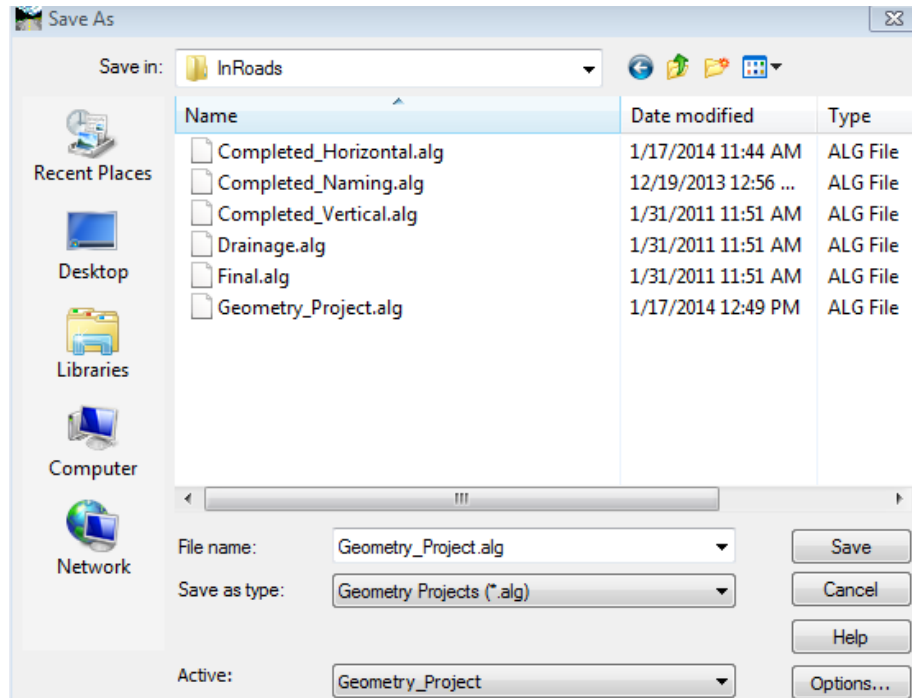

Figure 1-7 InRoads Save As Geometry Projects Dialog Box
- J. Create and Save the .alg (Geometry Project) file. Click to **File > Save As** on the InRoads Menu Bar. In the Save As box select Geometry Projects (*.alg) from the pull down for Save as type: . For Active: select the geometry name from the pull down and then the File name will appear in the File Name Box. Click **Save**, and then after the file is saved, click **Cancel**. See Figure 1-7.